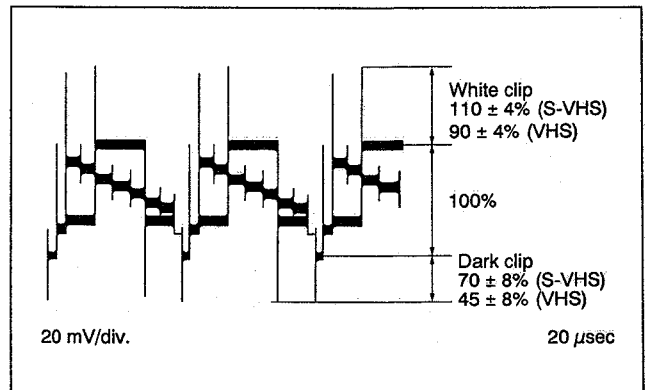

Fig.3-4-4 White/dark clip
- (1) Connect an oscilloscope to CN202 pin 8.
- (2) Set EVR mode by pressing "K" button of the presetting unit more than 2 seconds.
- (3) Set "A : 14" pressing 1 and 4 digit keys of the remote controller.
- (4) Adjust CH "-" or "+" button for $110 \pm 4\%$ (S-VHS), $90 \pm 4\%$ (VHS) white clip and $70 \pm 8\%$ (S-VHS), $45 \pm 8\%$ (VHS) dark clip as shown in Fig.3-4-4.
- (5) Set normal VCR mode by pressing "K" button of the presetting unit again so adjustment data is memorized.